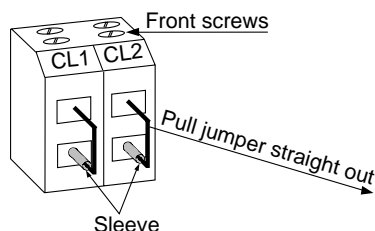

Figure 28: CL1, CL2 Jumper Removal
1. Loosen the front screws only (see Figure 28).